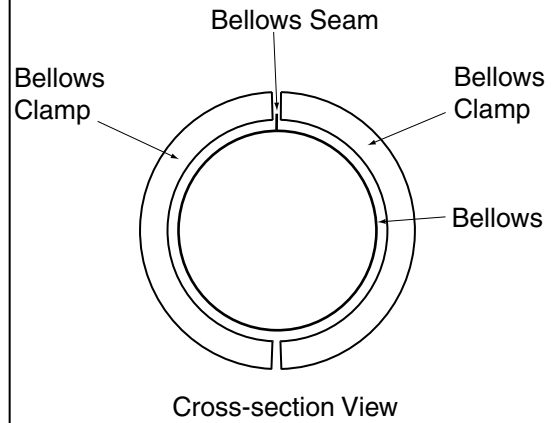

Figure 9-15. Bellows Clamp Alignment
6. Re-install the upper bellows clamp. You must align mating surface of the clamp half-rings with the bellows seam—see Figure 9-15. Tighten the screw to secure the bellows.
8. Place new gaskets in the lower bellows clamp—extra gaskets are shipped in the accessory kit. Then install the clamp over the bottom of the bellows, on the bearing ring just above the tool flange. Align the mating surfaces of the clamp half-rings with the bellows seam—see Figure 9-15. Tighten the screw to secure the clamp.